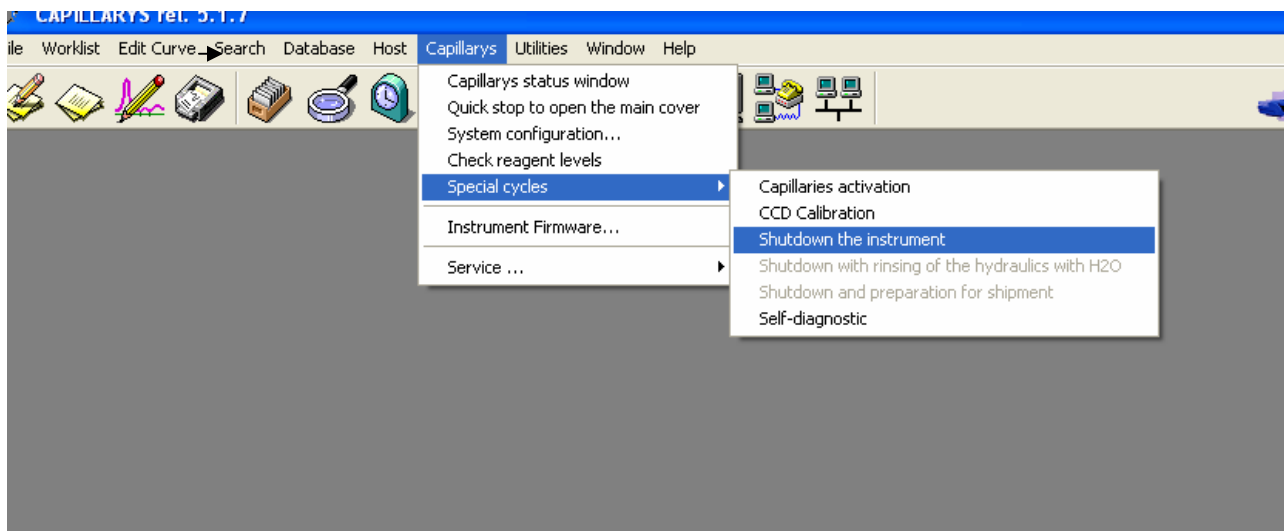

Fig 6
1. \_\_\_\_\_ Launch shutdown cycle. ( **Capillarys**→ **special cycles** →**shutdown** ) See **Fig 6**